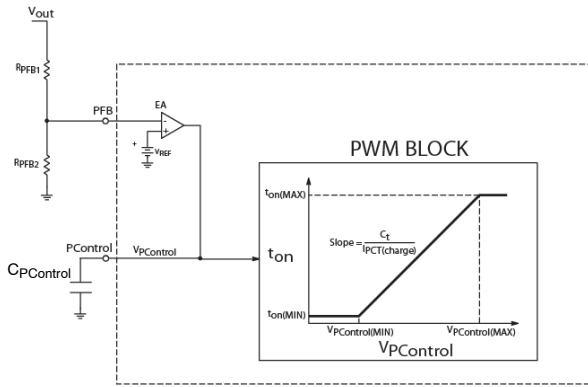

Figure 19. Error Amplifier and On Time Regulation Circuits
The NCP1927 error amplifier (EA) consists of an operational transconductance amplifier (OTA) with the inverting input connected to the PFB pin and the output connected to the PControl pin to regulate the output voltage. It features a typical transconductance (gm) of 200 μS and a maximum output (IEA(SRC) and IEA(SNK)) of ±20 μA (typical). The non-inverting input is connected internally to a voltage reference (VREF) with a typical value of 2.5 V ±1.5% over process and temperature. During normal operation, the voltage on the PControl pin varies between VPCControl(MIN) (typically 0.6 V) and VPCControl(MAX) (typically 5.6 V). A simplified diagram of the OTA circuit is shown in Figure 19.
This creates a ripple on the output with frequency equal to twice the line frequency (fline). Since the on time must remain constant during each ac line cycle to maintain good power factor correction, the EA must reject the output ripple. This is commonly achieved by setting the regulation bandwidth below 20 Hz. A type 1 compensation network is typically used for simplicity, as it only requires a single capacitor (CPCControl) connected between the PControl pin and ground (see Figure 19). For a type 1 network, CPCControl is calculated using Equation 10.